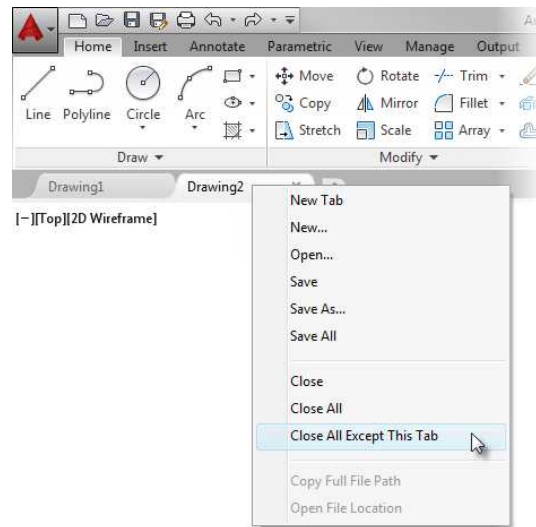

FIGURE 2.3: Using the File Tab interface to manage open drawings
4. Right-click the File Tab for the drawing you just created and select Close All Except This Tab from the menu, as shown in Figure 2.3.